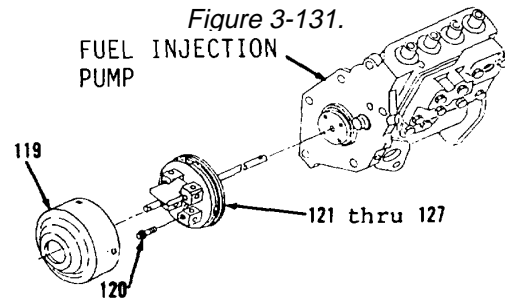
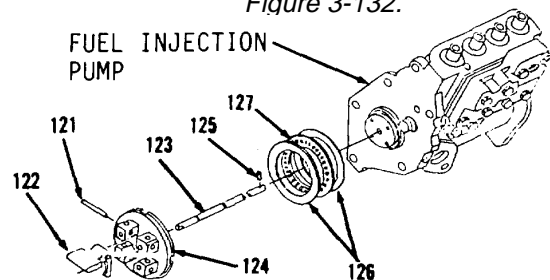

Figure 3-132.
Figure 3-133
18. Remove and discard shield (119, Figure 3-132). Insert screwdriver in slots at end mounting fuel injection pump and pry up.
19. Remove four bolts (120) and items 121 thru 127 as an assembly.
20. Remove four dowels (121) and weights (122) from carrier (124, Figure 3-133).
21. Remove shaft (123) from carrier (124).
22. Remove dowel (125) from shaft (123).
23. Remove two races (126) and bearing (127) from camshaft at rear of fuel injection pump.